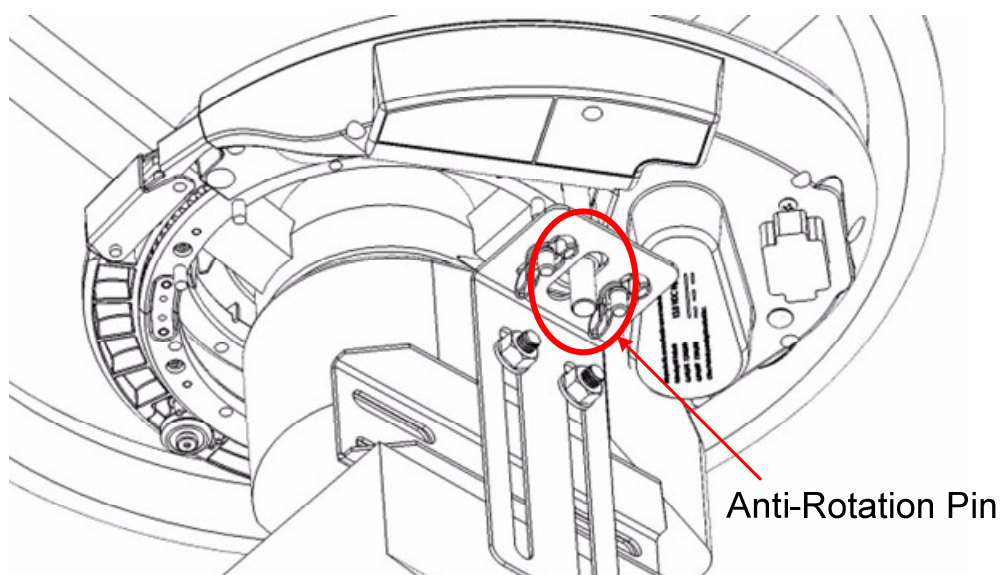

Figure 15 – Side Flange Bearing
3. Place the flange bearing assembly over anti-rotation pin. Figure 15